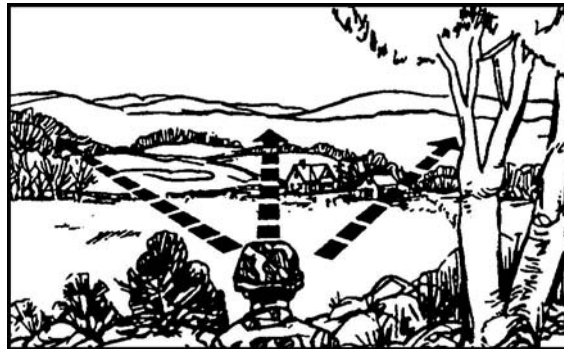

Figure 1. Fast overall search.
- a. Make a fast overall search of the entire area by raising your eyes quickly from just in front of your position to the maximum range you wish to observe (Figure 1). (For a wide area, subdivide and repeat the procedure.)